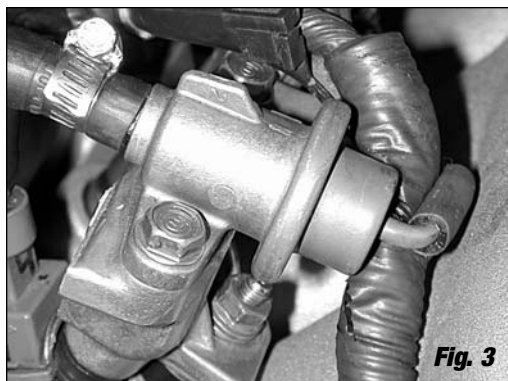

Fig. 3
8. When installing fuel pressure regulator, rotate assembly 180 degrees to clear the intake (**See Fig. 3**).